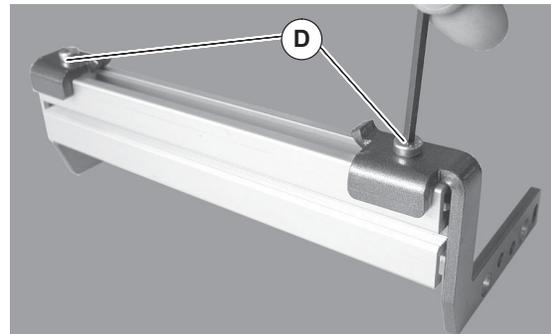
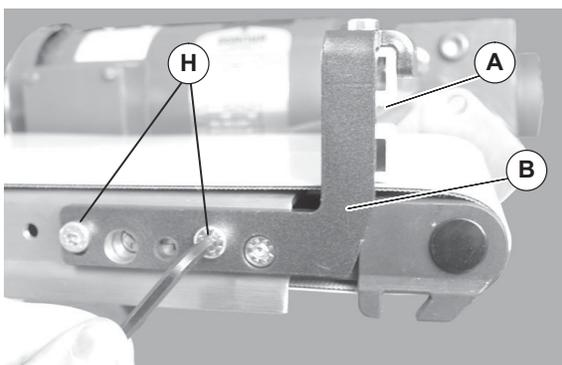

Figure 11
Figure 15
4. Loosen the socket head screws (Figure 11, item D) on the end stop assembly.
8. Place the remainder of the end stop assembly (Figure 15, item A and B) on end of conveyor and attach non-gearmotor mount side with head plate screws (H) tighten to 57 in-lbs (6.4 N-m).
If used with Heavy Load Gearmotor Mounting Package, End Stop bracket (Figure 15, item B) replaces mount spacer as shown in Figure 16.
9. Center the end stop (Figure 15, item A) on the conveyor and tighten screws (Figure 11, item D) to 57 in-lbs (6.4 N-m).